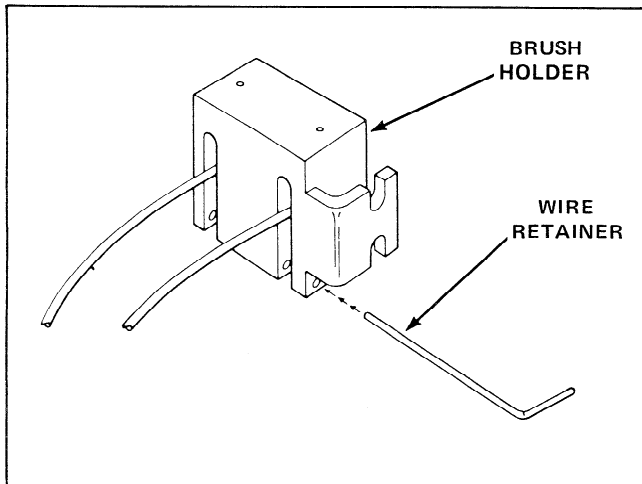

Figure 6-22. Brush Holder
6. To install the brushes and holder insert a wire as shown in Figure 6-22, to hold the brushes in. Position the brushes on the collector rings and install the two screws. Remove the wire.